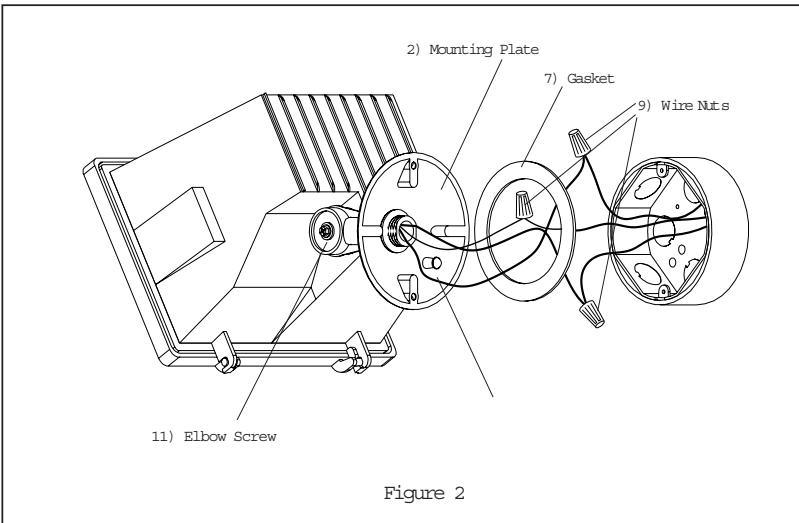

Figure 2
3. Insert fixture wires through center hole of Mounting Plate and thread 1/2" knuckle onto Mounting Plate by several turns. See Fig. 2. Note: Junction box must be rated for outdoor/wet location.
4. Position Gasket on back of Mounting Plate. See Fig. 2.
5. To ground fixture, use Wire Nut to connect the house supply ground wire & the fixture ground (copper wire). See Fig. 2.
9. Loosen Elbow Screw (see Fig. 2) until fixture rotates freely and adjust to desired position. Tighten Elbow Screw to secure in position.